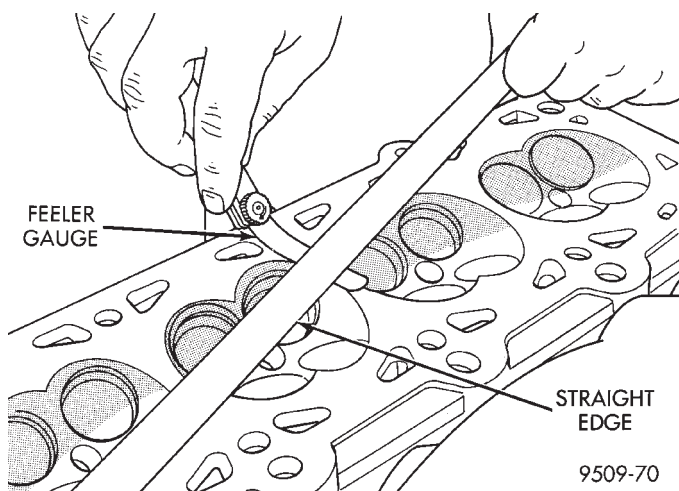

Fig. 88 Checking Cylinder Head Flatness
(1) Cylinder head must be flat within 0.1 mm (0.004 inch) (Fig. 88).
(2) Inspect camshaft bearing journals for scoring.